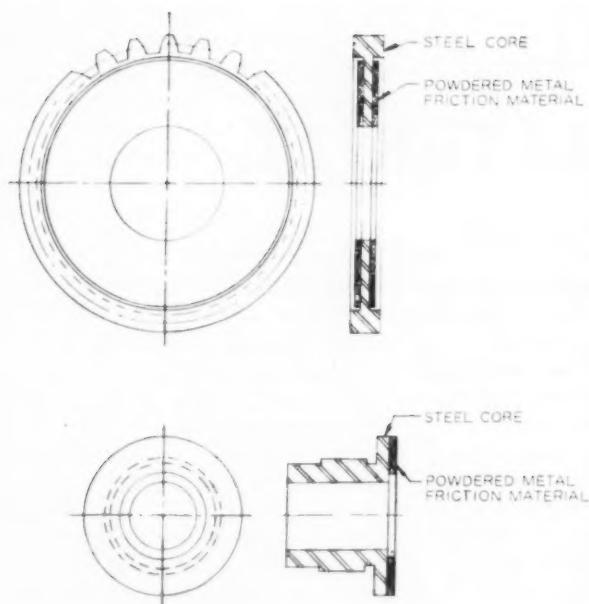

FIG. 2 FLANGE-TYPE STEEL CORES
**Core or Backing Processing.** Core or backing material is usually sheet metal of some standard gage, either cold or hot-rolled. Hot-rolled material must be pickled, oiled, and cleaned to give the scale-free surface necessary for bonding to the powdered metal. The sheet metal is prepared to shape by the usual methods, such as blanking, shearing, nibbling, or piercing. However, machine work is sometimes required, particularly where lugs or splines are necessary on small-quantity jobs which do not warrant the cost of a blanking die. Cast-iron, cast-steel, or plate-steel cores are used often, particularly on heavier-type applications. With these heavier cores, it is necessary to machine the surfaces on which the powdered-metal friction material is to be applied to a parallel flat condition and also to clean the surfaces entirely of defects such as scale and blow-holes. A medium machine finish is all that is required. Hub sections or axial projections, Fig. 2, beyond the surface to which the friction material is bonded are difficult to accommodate in the sintering operation, particularly if they project beyond the friction thickness.